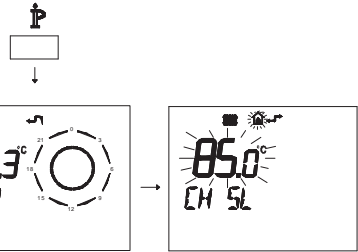

Fig. 7.22
- Press button \mathbb{P} for more than 3 seconds to enter in *INFO* (Fig. 7.22) mode.